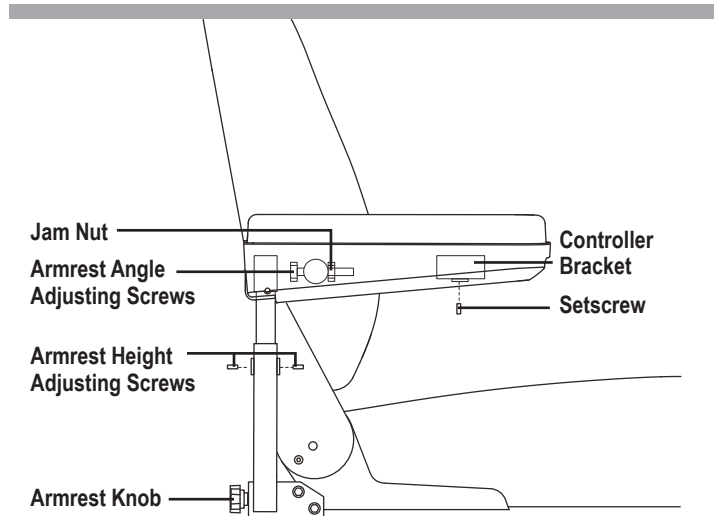

Figure 16. Seatback/Armrest Adjustment
1. Locate the two armrest knobs on each side of the armrest receiver bracket. **See figure 16.**
1. Lift the armrest straight up so that it is perpendicular to the floor. **See figure 16.**
1. Loosen the two setscrews located on the armrest receiver. **See figure 16.**
2. Loosen the setscrew on the controller bracket. **See figure 16.**